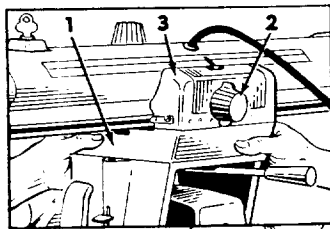

Figure 24
To test for looseness in the carriage, firmly grasp the carriage (Item 1, figure 24) at the level of the ball races and apply a firm rocking motion.
3. Remove carriage lock knob assembly (Item 2, figure 24), carriage cover (Item 3, figure 24) and wipers.